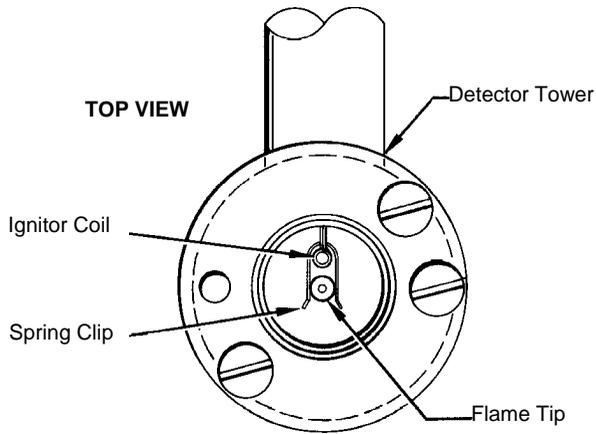

Figure 20 FID Tower Top View
6. Carefully insert the ignitor probe into the lower arm of the detector tower. Align the probe key with the tower arm slot. Check the orientation of the ignitor elements by looking down through the top of the detector tower. The spring clip should slip around the flame tip and make good contact (see Figure 20). The ignitor coil must not touch the flame tip assembly nor be positioned directly above it. Tighten the knurled nut to secure the probe.
9. Insert the signal probe into the upper arm of the detector tower. The probe clip should fit around the tapered section on the collector tube tightly enough to exert a downward force (see Figure 20). Secure the signal probe by tightening the knurled nut. Make sure the notch in the detector tower arm does not cut the o-ring seal.